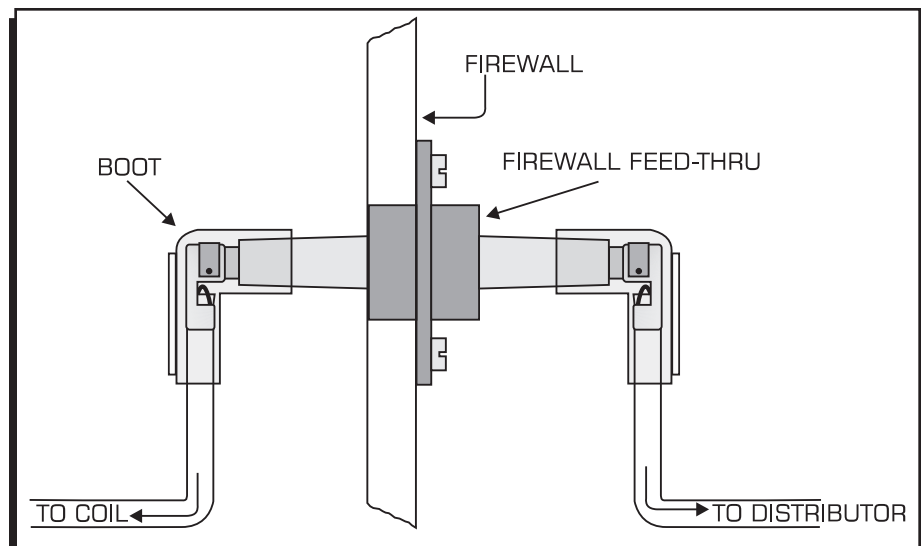

Figure 2
6. Connect one coil wire from the distributor to the Firewall Feed-Thru and another coil wire from the Feed-Thru to the coil. You must use 90 degree spark plug style (HEI style) boots and terminals for connections on both ends of the Firewall Feed-Thru. See Figure 2.